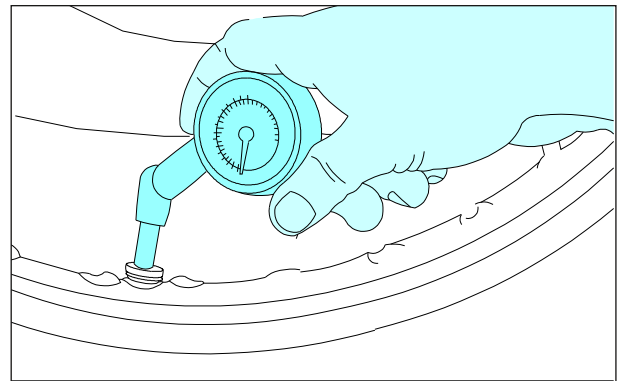

Fig. 5.7
**Note:** Tyre pressure must be always measured in cold condition. (Fig. 5.7)